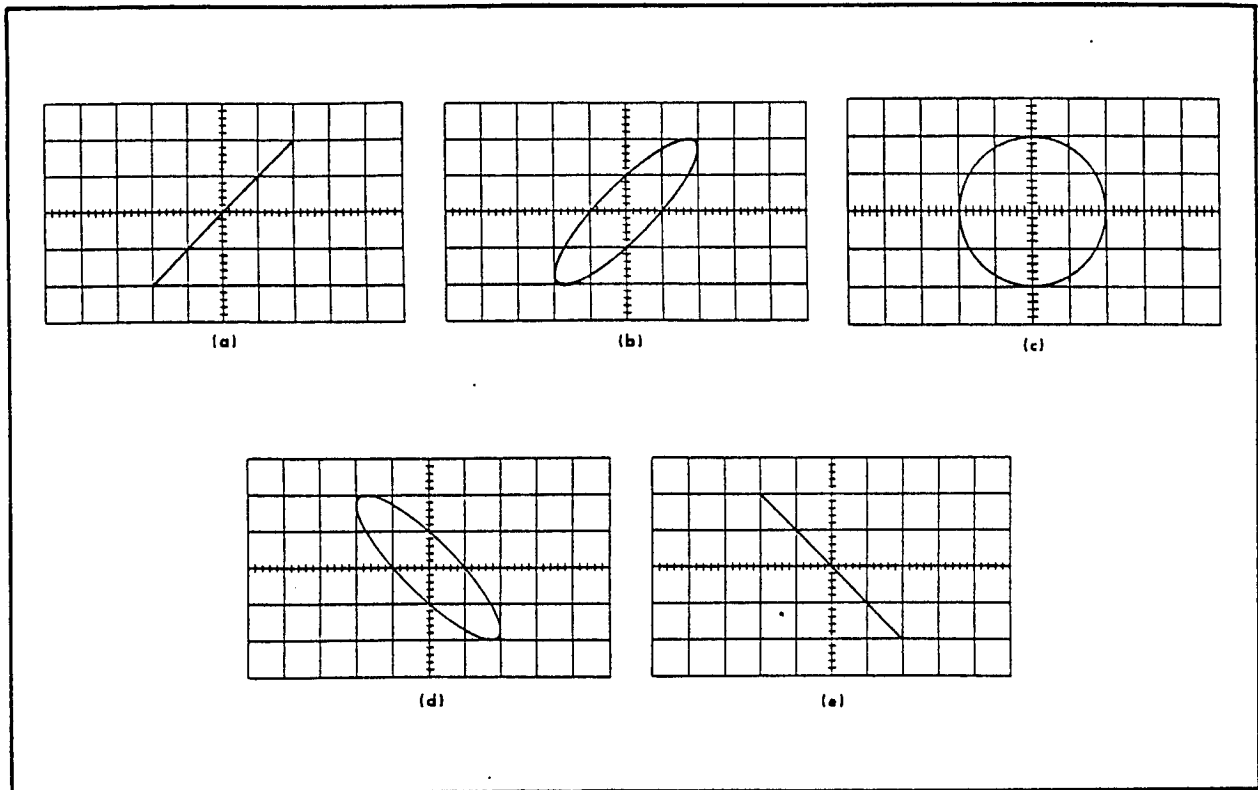

Fig. 2-24. Phase of Lissajous displays. (a) 0° or 360°, (b) 30° or 330°, (c) 90° or 270°, (d) 150° or 210° and (e) 180°.
5. Divide A by B to obtain the sine of the phase angle ( $\phi$ ) between the two signals. The angle can then be obtained from a trigonometric table. If the display appears as a diagonal straight line, the two signals are either in phase (tilted upper right to lower left) or  $180^\circ$  out of phase (tilted upper left to lower right). If the display is a circle, the signals are  $90^\circ$  out of phase. Fig. 2-24 shows the lissajous displays produced between  $0^\circ$  and  $360^\circ$ . Notice that above  $180^\circ$  phase shift, the resultant display will be the same as at some lower frequency.